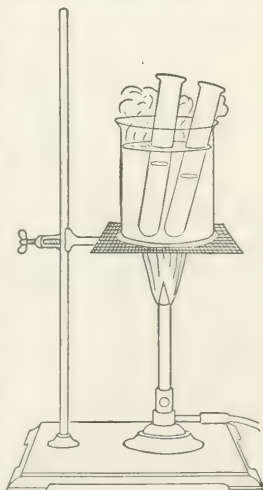

Fig. 43. Heating solutions in hot water.
**b. Solubility in hot water.** Heat the solutions just prepared in a beaker of boiling water (Fig. 43) and continue to add 2-gram portions of the solid until each solution is saturated at  $100^{\circ}\text{C}$ . *Compute for each solid the amount which dissolves in 100 g. of hot water.*